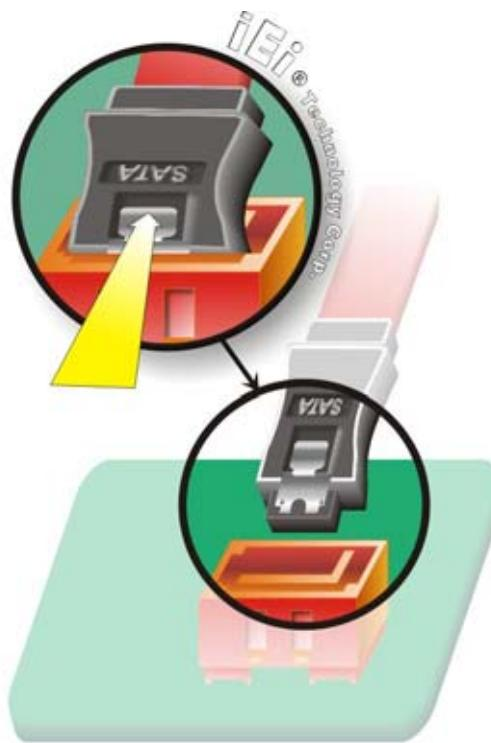

Figure 5-6: SATA Drive Cable Connection
Step 2: Insert the cable connector. Press the clip on the connector at the end of the SATA cable and insert the cable connector into the onboard SATA drive connector. See **Figure 5-6**.